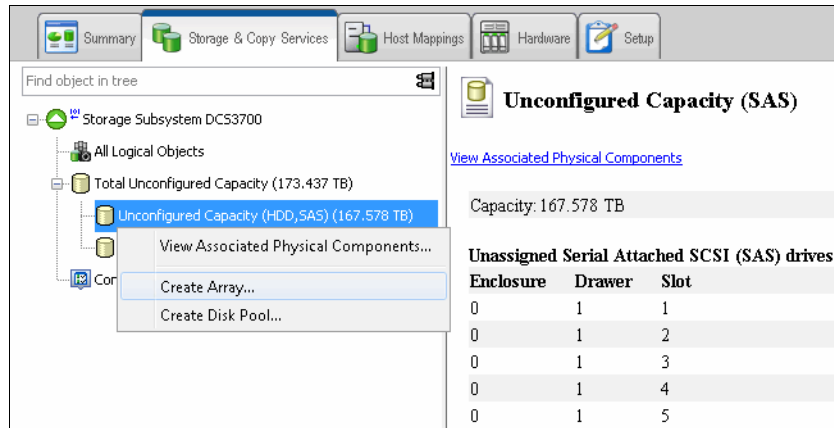

Figure 8-8 Using unconfigured capacity
1. In the Logical pane (Figure 8-8 on page 233), right-click the **Total Unconfigured Capacity** and select **Create Array**.